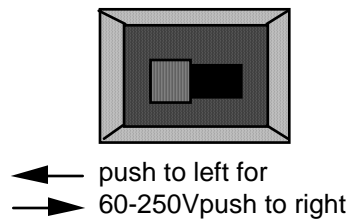

Figure 2-8B. Input check switch (S101)
- b. For applications where dual safety valve coil voltage is 12-60 Vac or Vdc: Set switch S101 to the right. The switch is marked 12-60 V. (*This switch is located at the upper right-hand portion of the board. See Figure 2-5 for location of switch. See Figure 2-8B for illustration.*)